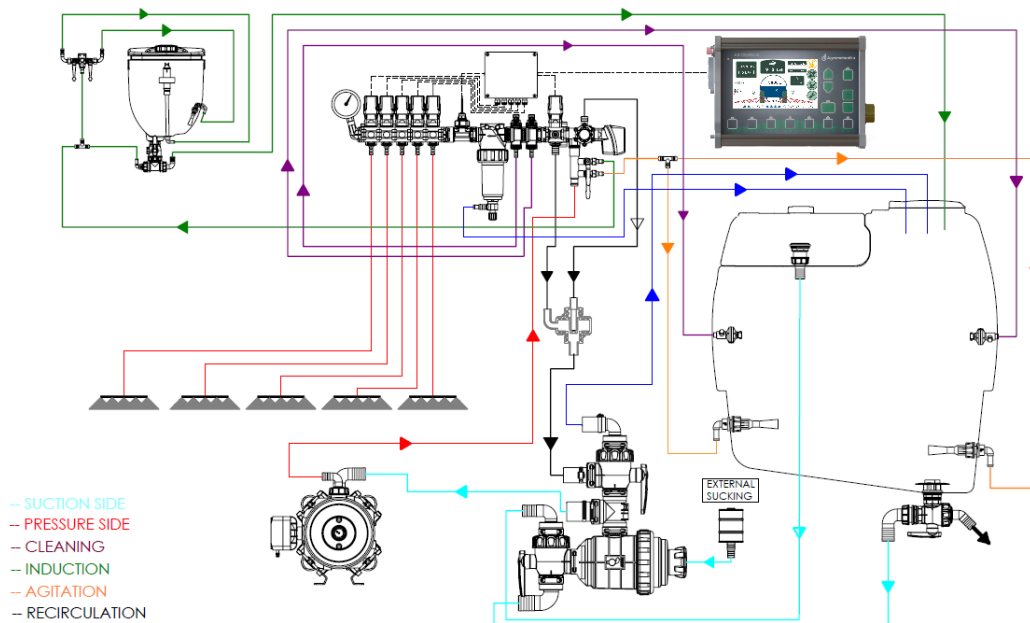

Figure 68
- Regulation with MAIN valve (Figure 68)